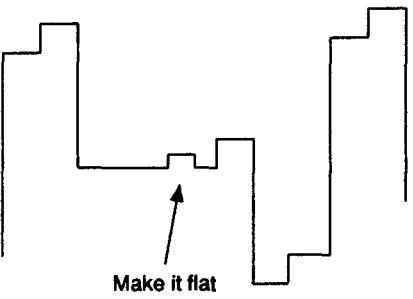

Fig. 5-21
- 2) Adjust **PHASE NTSC 443 ACC OFF** in the same way as 10-7-5. (Fig.5-21)